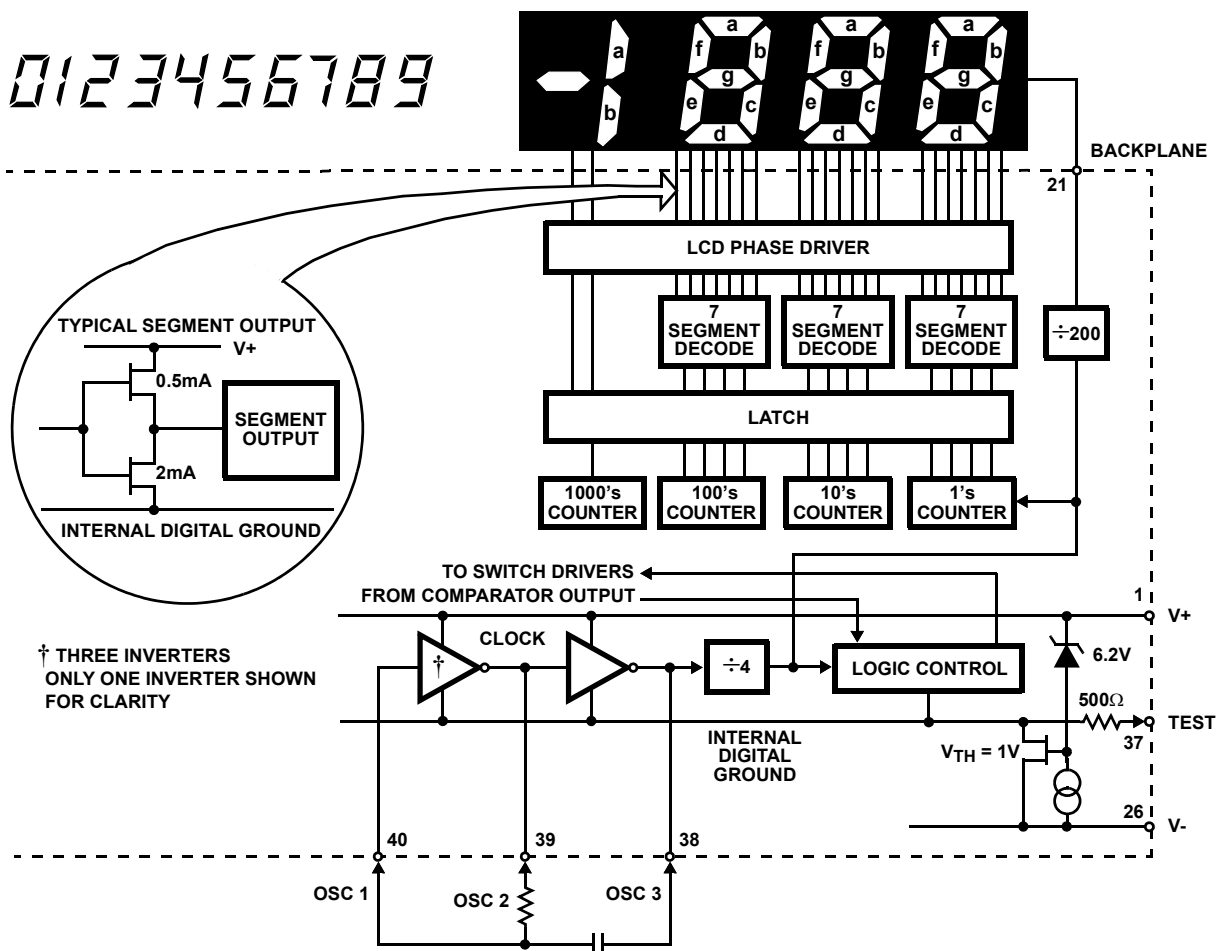

FIGURE 6. ICL7136 DIGITAL SECTION
Figures 6 shows the digital section for the ICL7136. In the ICL7136, an internal digital ground is generated from a 6V Zener diode and a large P-Channel source follower. This supply is made stiff to absorb the relatively large capacitive currents when the back plane (BP) voltage is switched. The BP frequency is the clock frequency divided by 800. For three readings/second this is a 60Hz square wave with a nominal amplitude of 5V. The segments are driven at the same frequency and amplitude and are in phase with BP when OFF, but out of phase when ON. In all cases negligible DC voltage exists across the segments.